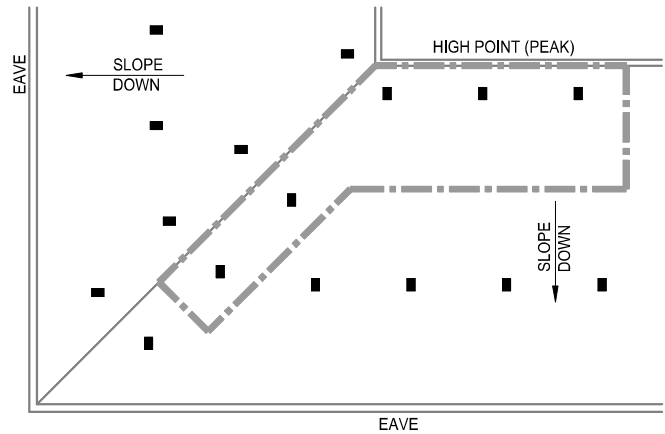

FIGURE 26B
- Calculation #1: Calculate the 3 most hydraulically demanding contiguous DS sprinklers located along the high point (peak) plus the 2 most demanding sprinklers along the hip line. See Figure 26B.